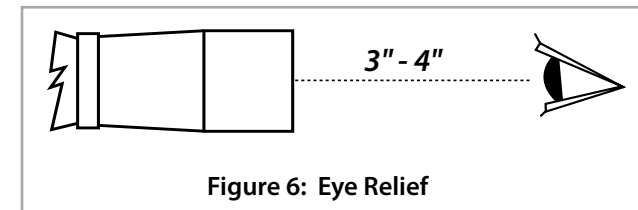

Figure 6: Eye Relief
2. Hold the rifle in your normal shooting position with the riflescope positioned fully forward in the rings. Place your head as far forward on the stock as you might position it in field use. Slowly move the riflescope back just to the point where the full field of view is obtained. It is recommended to mount the riflescope at this position with as much eye relief as possible (3.5"–4") or slightly forward to ensure maximum eye relief. See Figure 6.